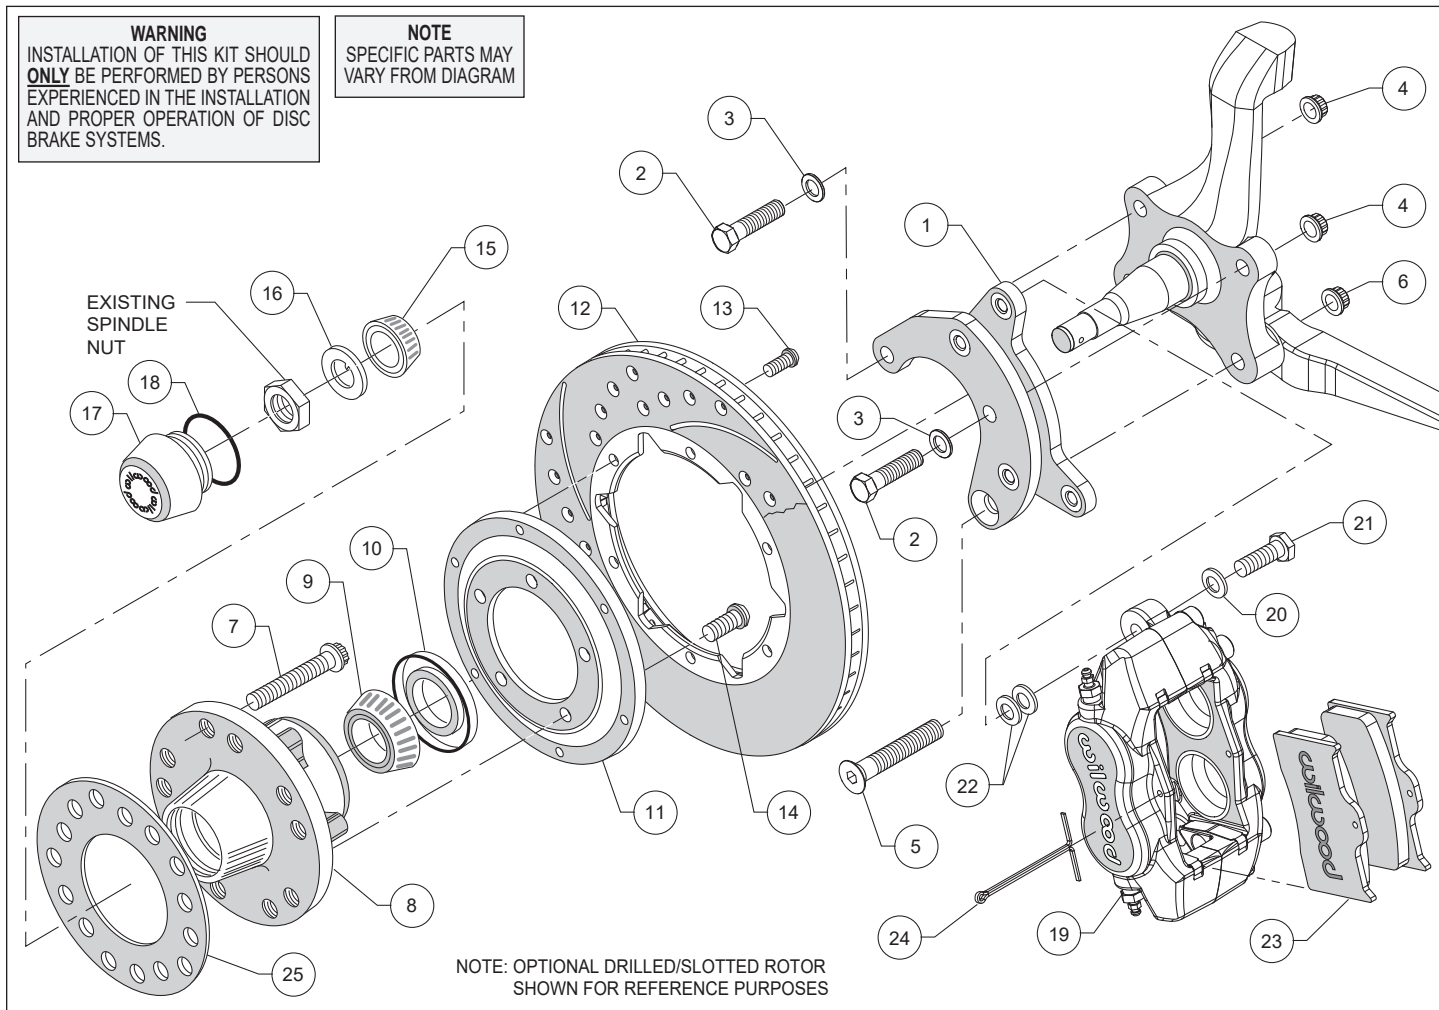
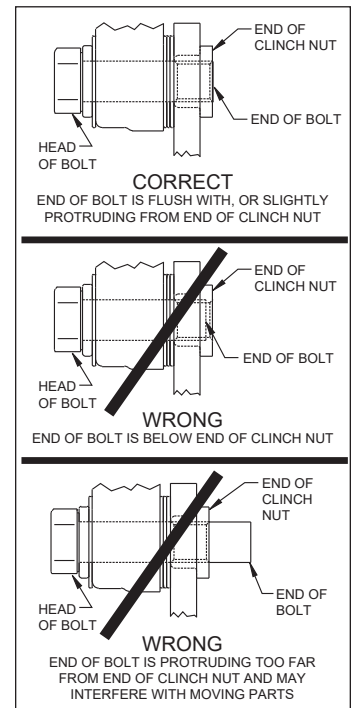

Figure 1. Typical Installation Configuration
Figure 4. Clinch Nut Engagement Diagram
**Assembly Instructions** (numbers in parenthesis refer to the parts list on the preceding page and Figure 1): **CAUTION:** All mounting bolts must fully engage clinch nuts. Be sure to check that all bolts are either flush or protruding through flanged side of clinch nut after shimming, Figure 4.
- Align bracket with the corresponding holes on the face of the spindle, attach using bolts (2/5), washers (3), and secure using nuts (4/6) as shown in Figure 1 and Photo 1. Temporarily tighten the mounting bolts. Ensure that the flanged heads of the clinch nuts in the bracket are facing outboard, Photo 1. **NOTE:** The bracket must fit squarely against the mounting points on the spindle. Inspect for interference from casting irregularities, machining ridges, burrs, etc. Torque lock nut (4) to 47 ft-lbs. and lock nut (6) to 65 ft-lbs.
- Install the grease seal (10) by pressing into the backside of the hub (8), flush with the end of the hub, Photo 3.
- Orient the rotor (12) and the rotor adapter (11) as shown in Figure 1 and Photo 4. Attach the rotor to the adapter using bolts (13). Using an alternating sequence, apply red *Loctite*® 271 to the threads, and torque to 25 ft-lb.
- Mount the adapter/rotor assembly (11/12) to the hub (8) using bolts (14), as shown in Figure 1 and Photo 5. Using an alternating sequence, apply red *Loctite*® 271 to the threads, and torque to 45 ft-lb.
- Pack the small outer bearing cone (15) with high temperature disc brake bearing grease and install into hub (8). Slide the hub/rotor assembly onto the spindle. Secure using spindle washer (16) and OEM spindle nut, Photo 6. Adjust bearings per OEM specifications. Install saved OEM nut lock (if any) and a new cotter pin (not supplied).
- Screw dust cap (17) into hub (8), Photo 7. Friction created by the o-ring (18) on the dust cap keeps it from unscrewing. **NOTE:** The O.D. of the existing OEM spindle washer may be larger than the I.D. of the dust cap not allowing it to seat against the hub face. Therefore, use the spindle washer (16) supplied with the kit instead of the OEM washer.
- NOTE:** Please reference the caution statement at the beginning of the assembly instructions. Mount the caliper (19) onto the caliper mounting bracket (1) using bolts (21) and washers (20), as shown in Figure 1. Initially place two .035" thick shims (22) on each bolt between the caliper and the bracket, Photo 8. Temporarily tighten the mounting bolts and view the rotor (12) through the top opening of the caliper. The rotor should be centered in the caliper, Photo 9. If not, adjust by adding or subtracting shims between the bracket and the caliper. Always use the same amount of shims on each of the two mounting bolts. **NOTE:** The end of each bolt must be flush with or slightly protruding from the head of the clinch nut, as shown in Figure 4. If necessary place spare shims between washer (20) and caliper mounting ear to achieve the proper clinch nut engagement. Once the caliper alignment and clinch nut engagement are correct, remove the bolts one at a time, apply red *Loctite*® 271 to bolt threads, and torque to 40 ft-lb.
- Install the disc brake pads (23) into the caliper, with the friction material facing the rotor (12), and secure in place using cotter pin (24), Photo 10.